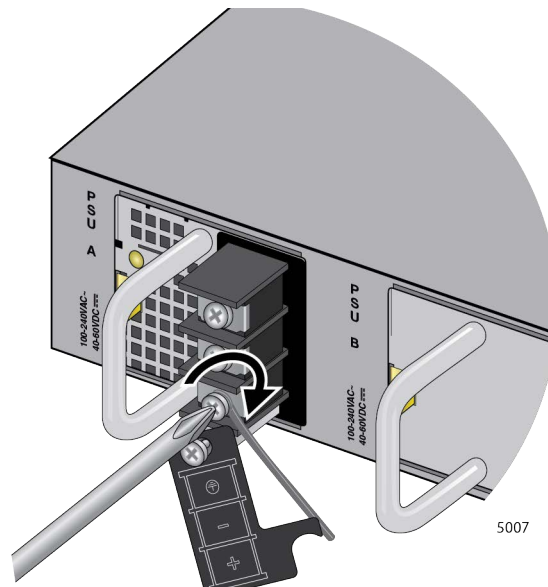

Figure 65. Wrapping the Grounding Wire and Tightening the Screw
5. Wind the grounding wire clockwise around the base of the grounding screw. Refer to Figure 65.